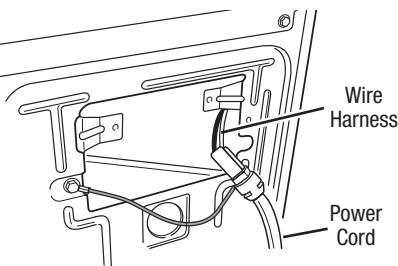
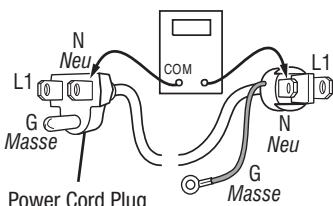

Figure 5. *Power cord-to-wire harness connection for gas dryer.*
Figure 6. Power cord terminals, gas dryer.
3. Check that the power cord is firmly connected to the dryer's wire harness. See figure 5.
5. With an ohmmeter, check for continuity between the neutral (N) terminal of the plug and P8-3 (white wire) on the machine control board.
The left-hand side of figure 6 shows the position of the neutral terminal (N) on the power cord plug. Also see figure 15, page 23.
- If there is no continuity, disconnect the white wire of the harness from the power cord at the location illustrated in figure 5, page 13. Test the continuity of the power cord neutral wire as illustrated in figure 6. If an open circuit is found, replace the power cord. Otherwise, go to step 6.
- If there is no continuity, check the continuity of the power cord in a similar way to that illustrated in figure 6, but for power cord's L1 wire.